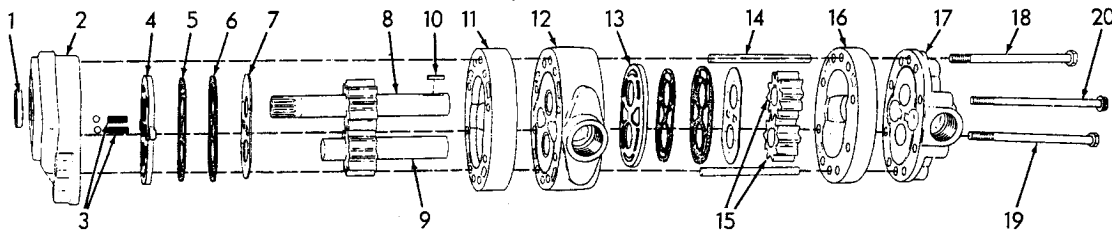

Fig. 10 -- Transmission Oil Pump Parts (HD6EP Eff. S/N 18754 and Up, HD7G Eff. S/N 24276 and Up) (T-71382)
- a. Install springs and check balls, Fig. 10, in bores in front plate. Install seals (4) (13) with open side down, gaskets (5) (6), and diaphragms (7) with bronze side up, in front plate and center housing; seal with "ears" goes in front plate. Use dull tool to "tuck" seals into grooves in front plate and center housing; diaphragms (7) will be flush with outer lip of seals when properly installed.
- b. Clamp front plate in a "soft jawed" vise, diaphragm up. Install drive shaft assembly and idler shaft assembly; align marks placed at disassembly and install gear housing, Fig. 10 (11) and center housing (12).
- c. Install drive shaft woodruff key, Fig. 10 (10) and pressure pump gears (15). Align marks placed at disassembly; install gear housing (16) and back plate (17).
- d. Install capscrews, Fig. 10 (18)(19)(20) in proper location; tighten evenly to 25 lb. ft. **DO NOT OVERTIGHTEN!**